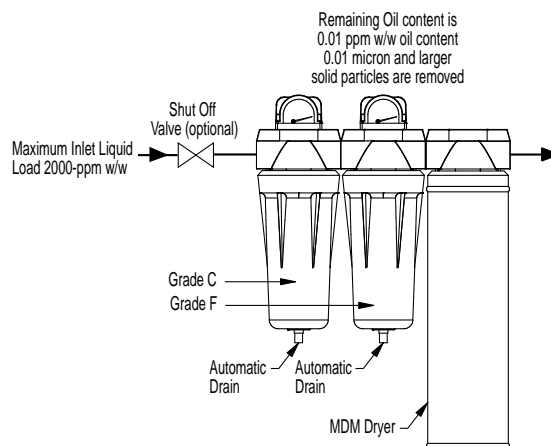

Figure 2.1
1. A typical membrane dryer installation is shown schematically in Figure 2.1.